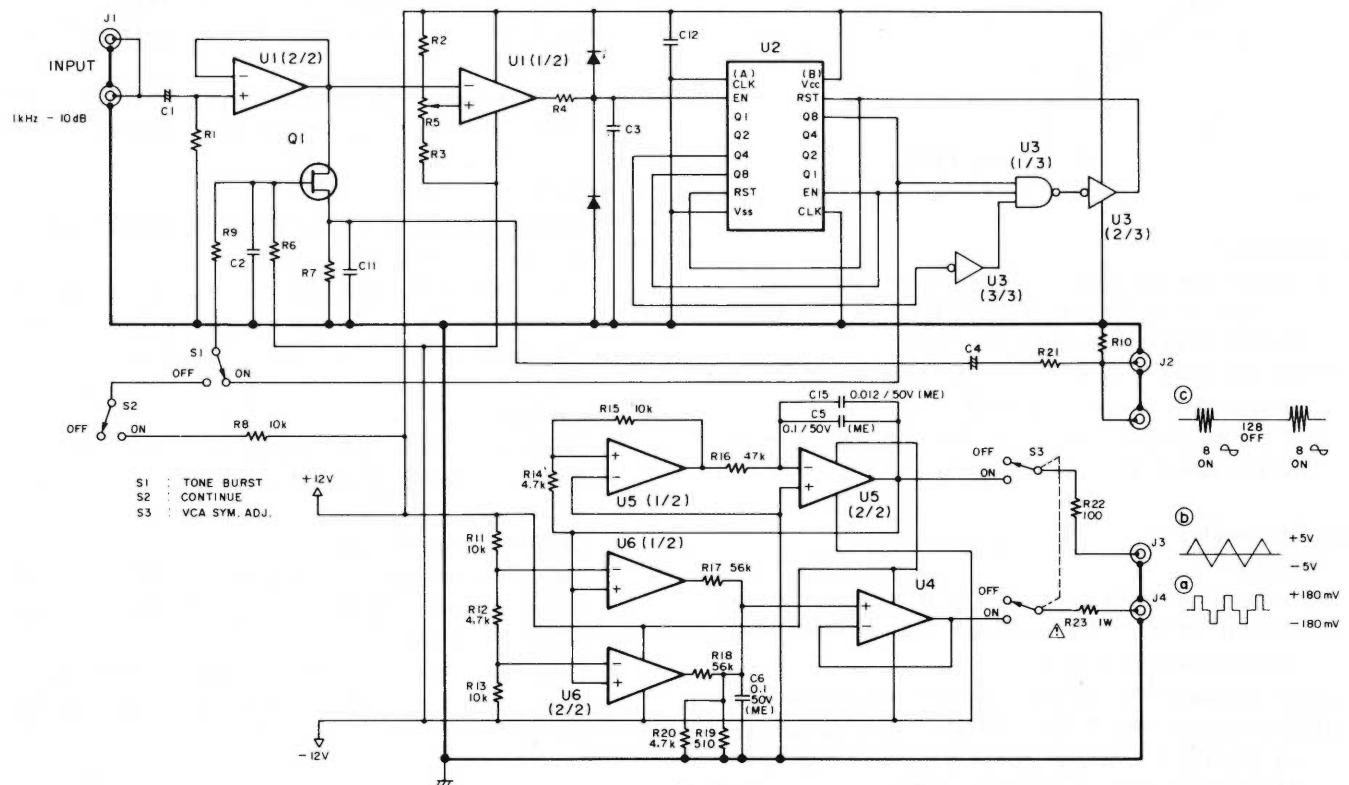

Fig. 4-6-8
- 1) Apply step wave (a) signal from the dbx designated circuit as shown in Fig. 4-6-8 to TP-13 (~TP-43) terminal. Then connect TP-11 (~TP-41) terminal to pin 3 of the connector D002 (Refer to GND, Fig. 4-6-1 (a)) to lead to the ground.
- 1) Feed a tone burst signal ② (8 cycles on — 12 cycles off) as shown in Fig. 4-6-8 to the PGM BUSS IN 1 (~ 4) and connect on oscilloscope to TP-13 (~TP-43).
- 1) Apply step wave signal ① from the circuit in Fig. 4-6-8 to TP-13 (~TP-43) terminal.
- 2) Connect TAPE OUT 1 (~ 4) terminal to the "VER" side of the oscilloscope and sawtooth signal ② in Fig. 4-6-8 to the "HOR" side.
- 3) Apply tone burst signal ② in Fig. 4-6-8 to TP-11 (~TP-41) and pin 3 of connector P002, then connect the oscilloscope to TP-13 (~TP-43).